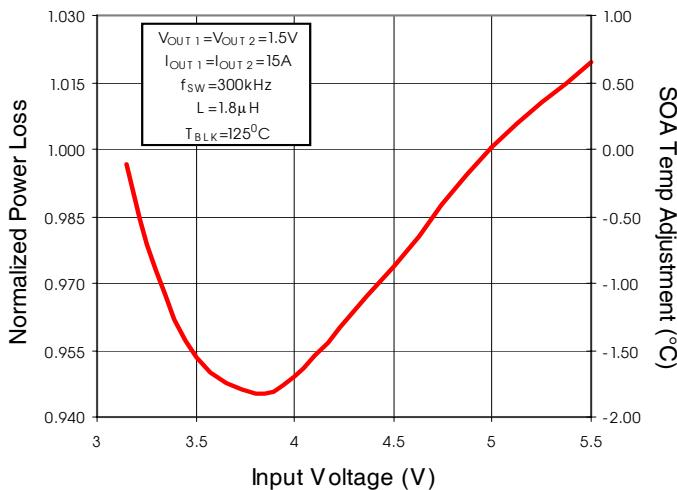

Fig. 4: Normalized Power Loss vs. V_{IN}
To make adjustments to the power loss curves in Fig. 2, multiply the normalized value obtained from the curves in Figs. 4, 5, 6 or 7 by the value indicated on the power loss curve in Fig. 2. Remember that the power loss in Fig 2. is the power loss for 2 outputs operating with the same output voltage. If differing output voltages are used the initial power loss for each channel needs to be divided by 2. Then if multiple adjustments are required, multiply all of the normalized values together, then multiply that product by the value indicated on the power loss curve in Fig. 2. The resulting product is the final power loss based on all factors. See example no. 1.
To make adjustments to the SOA curve in Fig. 3, determine your maximum PCB Temp & Case Temp at the maximum operating current of each iP1201. Then, add the correction temperature from the normalized curves in Figs. 4, 5, 6 or 7 to the T_x axis intercept (see procedure no. 2 above) in Fig. 3. When multiple adjustments are required, add all of the temperatures together, then add the sum to the T_x axis intercept in Fig. 3. See example no. 2.
(Fig. 4) Normalized power loss for input voltage ≈ 0.97
- Output1 (Fig. 4) Normalized SOA Temperature for input voltage $\approx -1.0^{\circ}\text{C}$
- Output2 (Fig. 4) Normalized SOA Temperature for input voltage $\approx -1.0^{\circ}\text{C}$